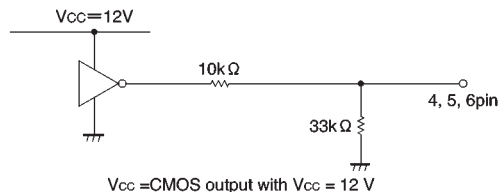

Fig.7
(1) Though the IC input pins can be directly connected with MOS output pins, it is recommendable to connect resistors of about 3 ~ 30kΩ between the pins for the sake of pin protection (see Fig. 7).
(2) When reversing the rotational direction of a motor, make sure to go through the brake mode in-between the opposite directions. It is recommendable to keep the brake mode for at least 10μs.
(3) Powering procedures should be designed so that V_{CC1} (pin 7) always rises first and falls last.
(4) The quality of these products have been carefully checked; however, use of the products with applied voltages, operating temperatures, or other parameters that exceed the absolute maximum rating given may result in the damage of the IC and the product it is used in. If the IC is damaged, the short mode and open modes cannot be specified, so if the IC is to be used in applications where parameters may exceed the absolute maximum ratings, then be sure to incorporate fuses, or other physical safety measures.
(5) Input pins